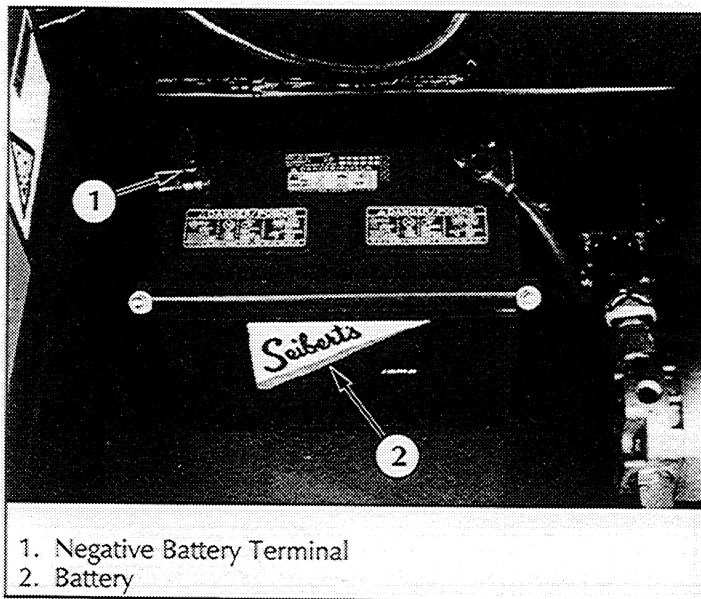

Figure 2-1: Battery
4. Connect the negative (-) lead terminal to the battery in the power module (Figure 2-1).
3. Disconnect the battery negative (-) lead from the battery terminal (Figure 2-1).